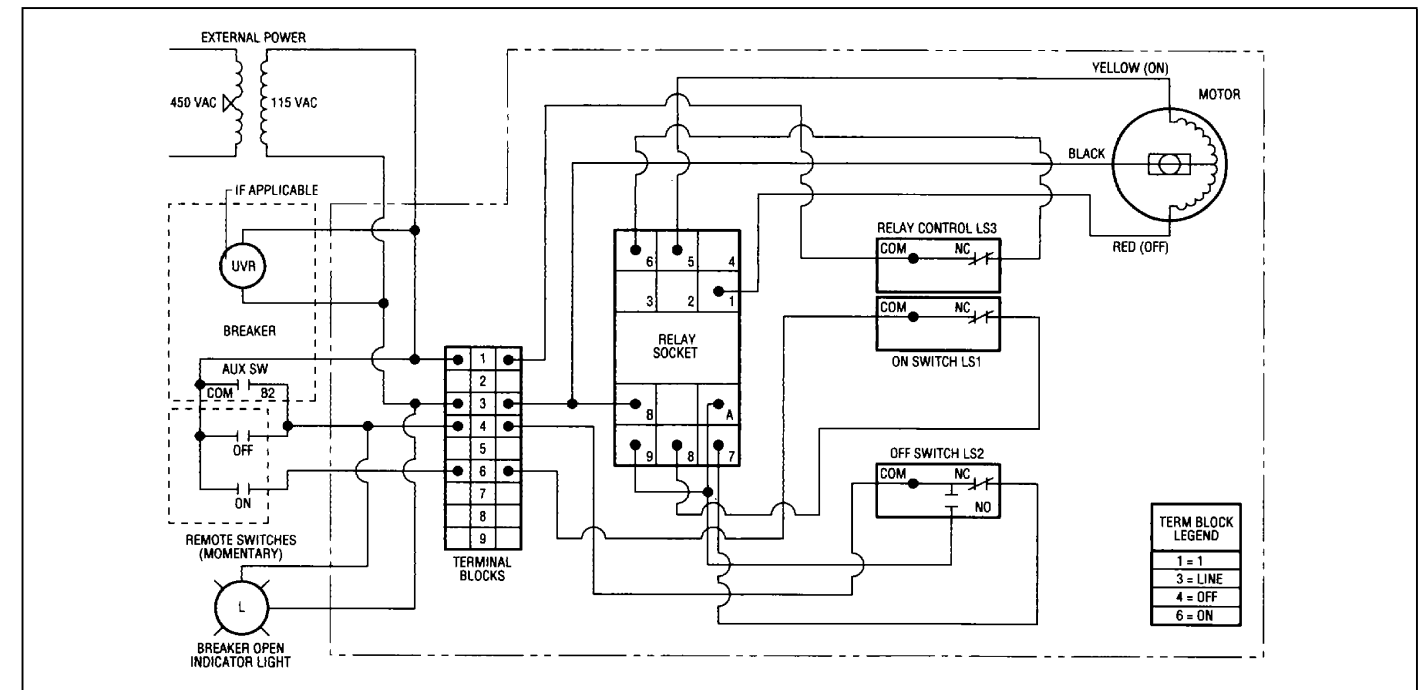

Fig. 2-3. Motor Operator Wiring Diagram
- j. Connect power and control wiring to the motor operator terminal block, including the "b" contact, in keeping with Figure 2-3.